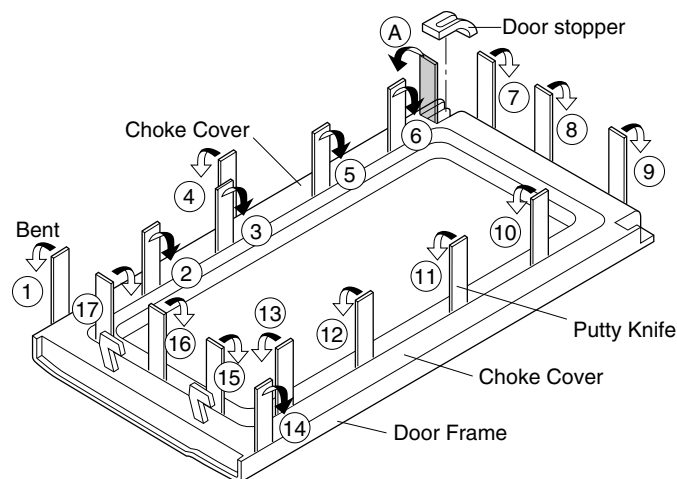

Figure C-3. Door Disassembly
- Insert an putty knife (thickness of about 0.5mm) into the gap Δ between the door stopper and the choke cover as shown in Figure C-3 to free engaging parts.
7. Insert a putty knife (thickness of about 0.5mm) into the gap between the choke cover and door panel and between the choke cover and the door frame as shown Figure C-3 to free engaging parts.
8. Try the principles of the lever and lift up the choke cover by inserting a putty knife in order shown in Figure C-3.